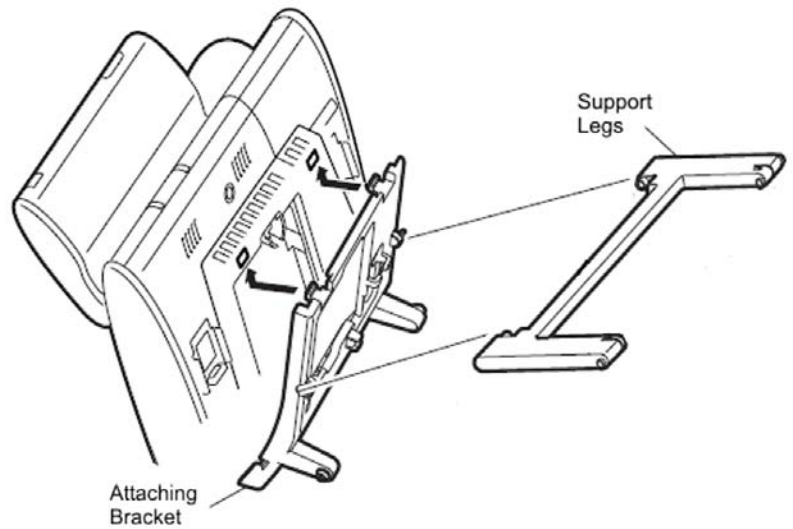

Figure 6-52 Align Bracket with Terminal
9. Assemble the legs and bracket then align with tab holes (refer to Figure 6-52 Align Bracket with Terminal).